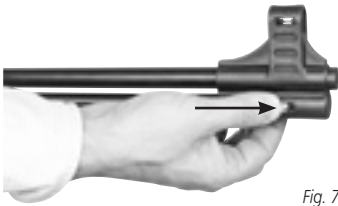
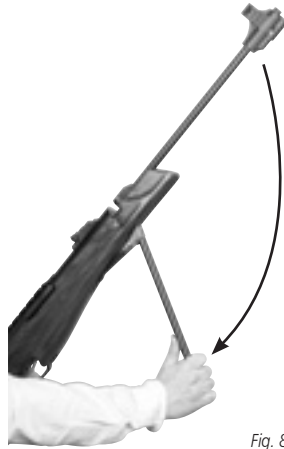

Fig. 7
Fig. 8
5. Hold the pistol grip with one hand. Push the cocking lever release button forward and break the cocking arm all the way down with the other hand (Fig. 7 & Fig. 8). Here you will notice that the safety button set to **'ON'** position automatically even if you left it in **'OFF'** position, which is as a result of automatic safety.